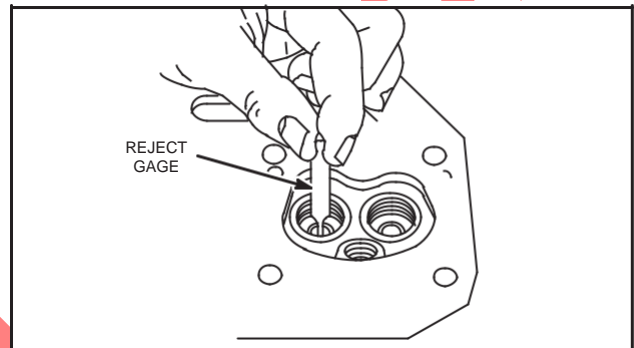

Fig. 13 – Check Valve Guide Bushing
2. Check valve guide bushings for wear using reject gauge, Tool #19381, Fig. 13.